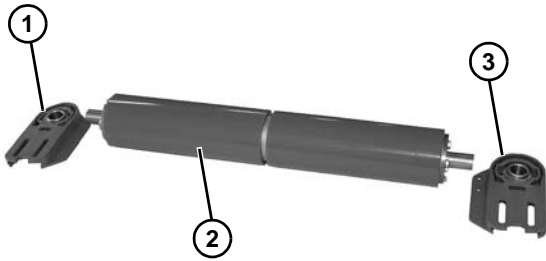

Figure 85
- Slide the headplate with bearing (Figure 85, item 1) off the shaft (Figure 85, item 2).
- Repeat for opposite side headplate (Figure 85, item 3).